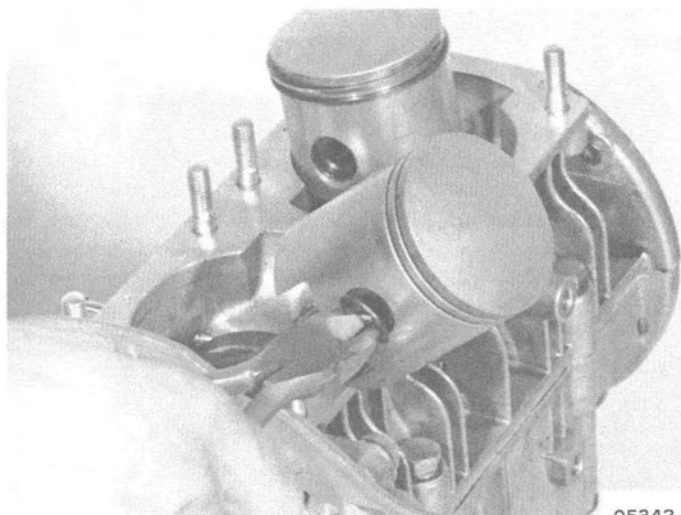

Figure 7. Piston Lock Rings
2. Remove piston pin lock rings from piston. (Figure 7)